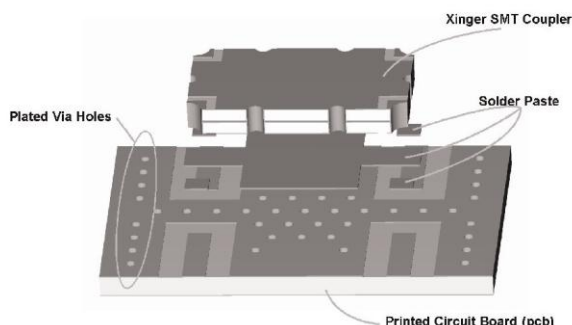

**Figure 2: Solder Paste Application**
**Solder Paste:** All conventional solder paste formulations will work well with Anaren's Xinger III surface mount components. Solder paste can be applied with stencils or syringe dispensers. An example of a stenciled solder paste deposit is shown in Figure 2. As shown in the figure solder paste is applied to the four RF pads and the entire ground plane underneath the body of the part.